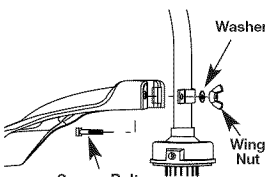

Fig. 2
- From inside the cutting attachment shield, push the square bolt through the hole until the threaded end protrudes through the guard mounting bracket (Fig. 2).